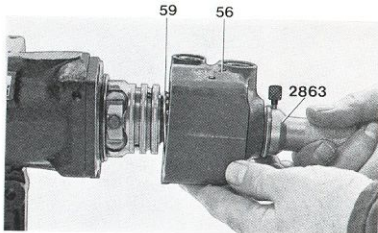

Fig. 6-99. Fitting valve housing
11. Tension out the sealing ring (54) with tool 2863. Place the bearing (59) in position. Fit the valve housing (56), see Fig. 6-99. The tightening torque for the bolts (50 and 52) is 34 Nm (25 lbf_t).